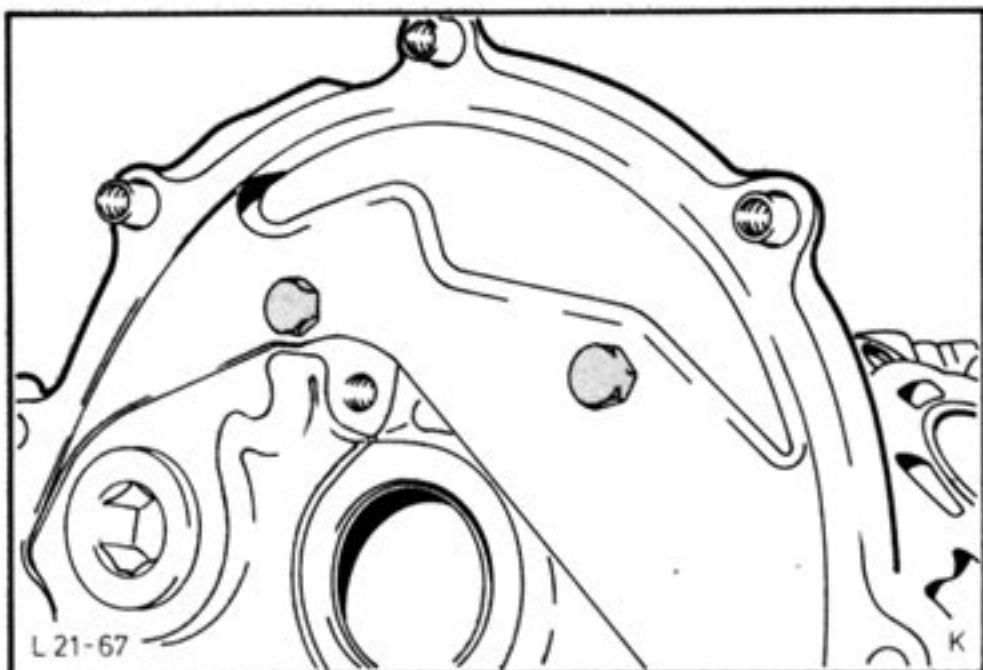

Fig.35. Unscrew intermediate plate.
22. Remove the two front intermediate plate bolts, Fig.35, and remove intermediate plate.